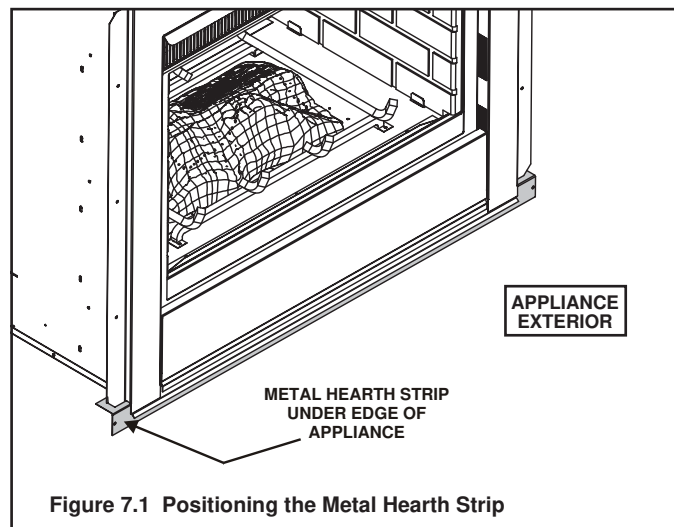

Figure 7.1 Positioning the Metal Hearth Strip
- Place the metal strip onto the structure where the outer edge of the appliance will sit (see Figure 7.1). It should overlap building paper to prevent water infiltration.